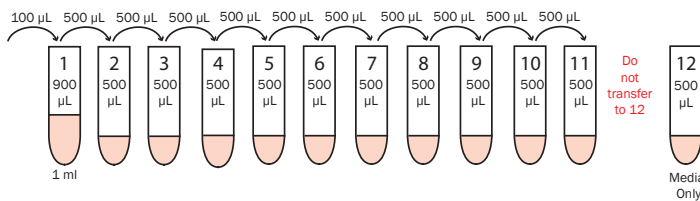

Figure 5: For 96-well Plate: 12-point Serial Dilution of IgG Standard
2.6 Add the prepared standards to the assay plate. Transfer 20 µL of each standard to the appropriate wells of the plate. (See a representative plate design for standard wells in **Figure 5**.) After transfer, cover the assay plate with a lid to prevent evaporation. There will be excess standard remaining. Use it on the same day, or discard. Do not save diluted standards.